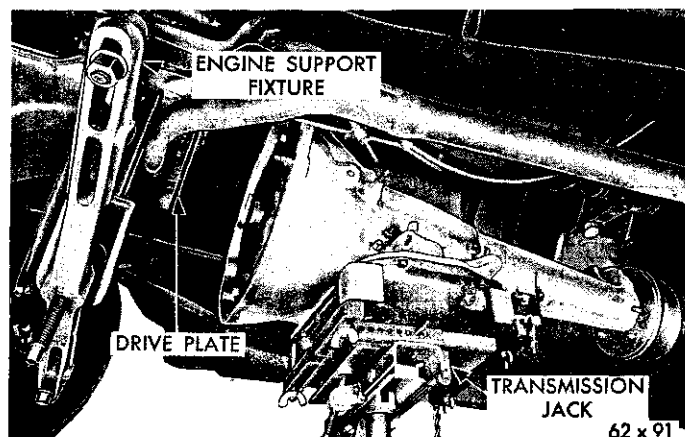

Fig. 45—Removing or Installing Transmission and Converter Assembly
(18) Remove the engine rear mount insulator to extension housing bolts.
(19) Install engine support fixture, Tool C-3487 and raise the engine slightly.
(20) Remove the crossmember attaching bolts and remove the crossmember.
(21) Place a transmission service jack under the transmission to support the assembly.
(22) Attach a small "C" clamp to the edge of the converter housing to hold the converter in place during the removal of the transmission.
(23) Remove the converter housing retaining bolts. Carefully work the transmission rearward off the engine block dowels and disengage the converter hub from the end of the crankshaft (Fig. 45).